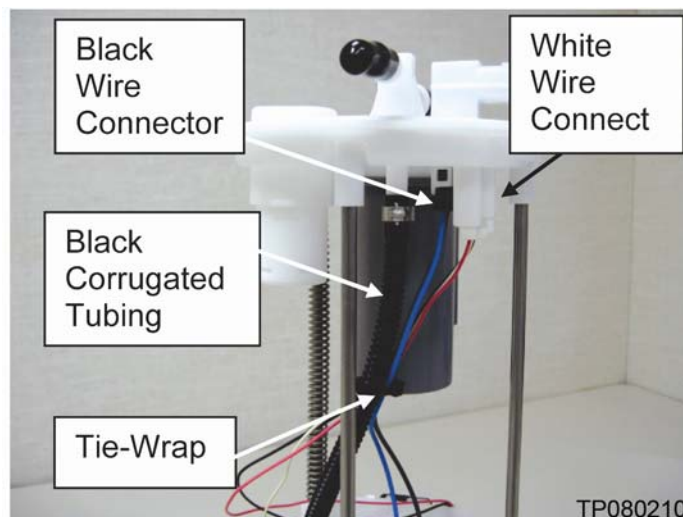

Figure 10
- e. Unplug the White Wire Connector at the top of the fuel pump (see Figure 10).
- f. Carefully cut the Tie-Wrap securing the harnesses to the Black Corrugated Tubing (see Figure 10).